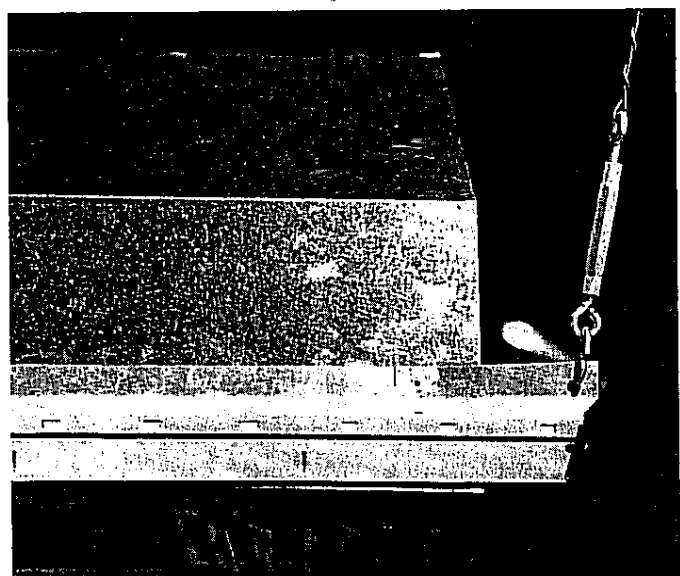

FIG. 1
5. Position the air cleaner so that the plastic face overlaps the T-bar ¼" on every side, then tighten the turnbuckles until the top side of the plastic just touches the bottom of the side of the T-bars. (Fig. 1)